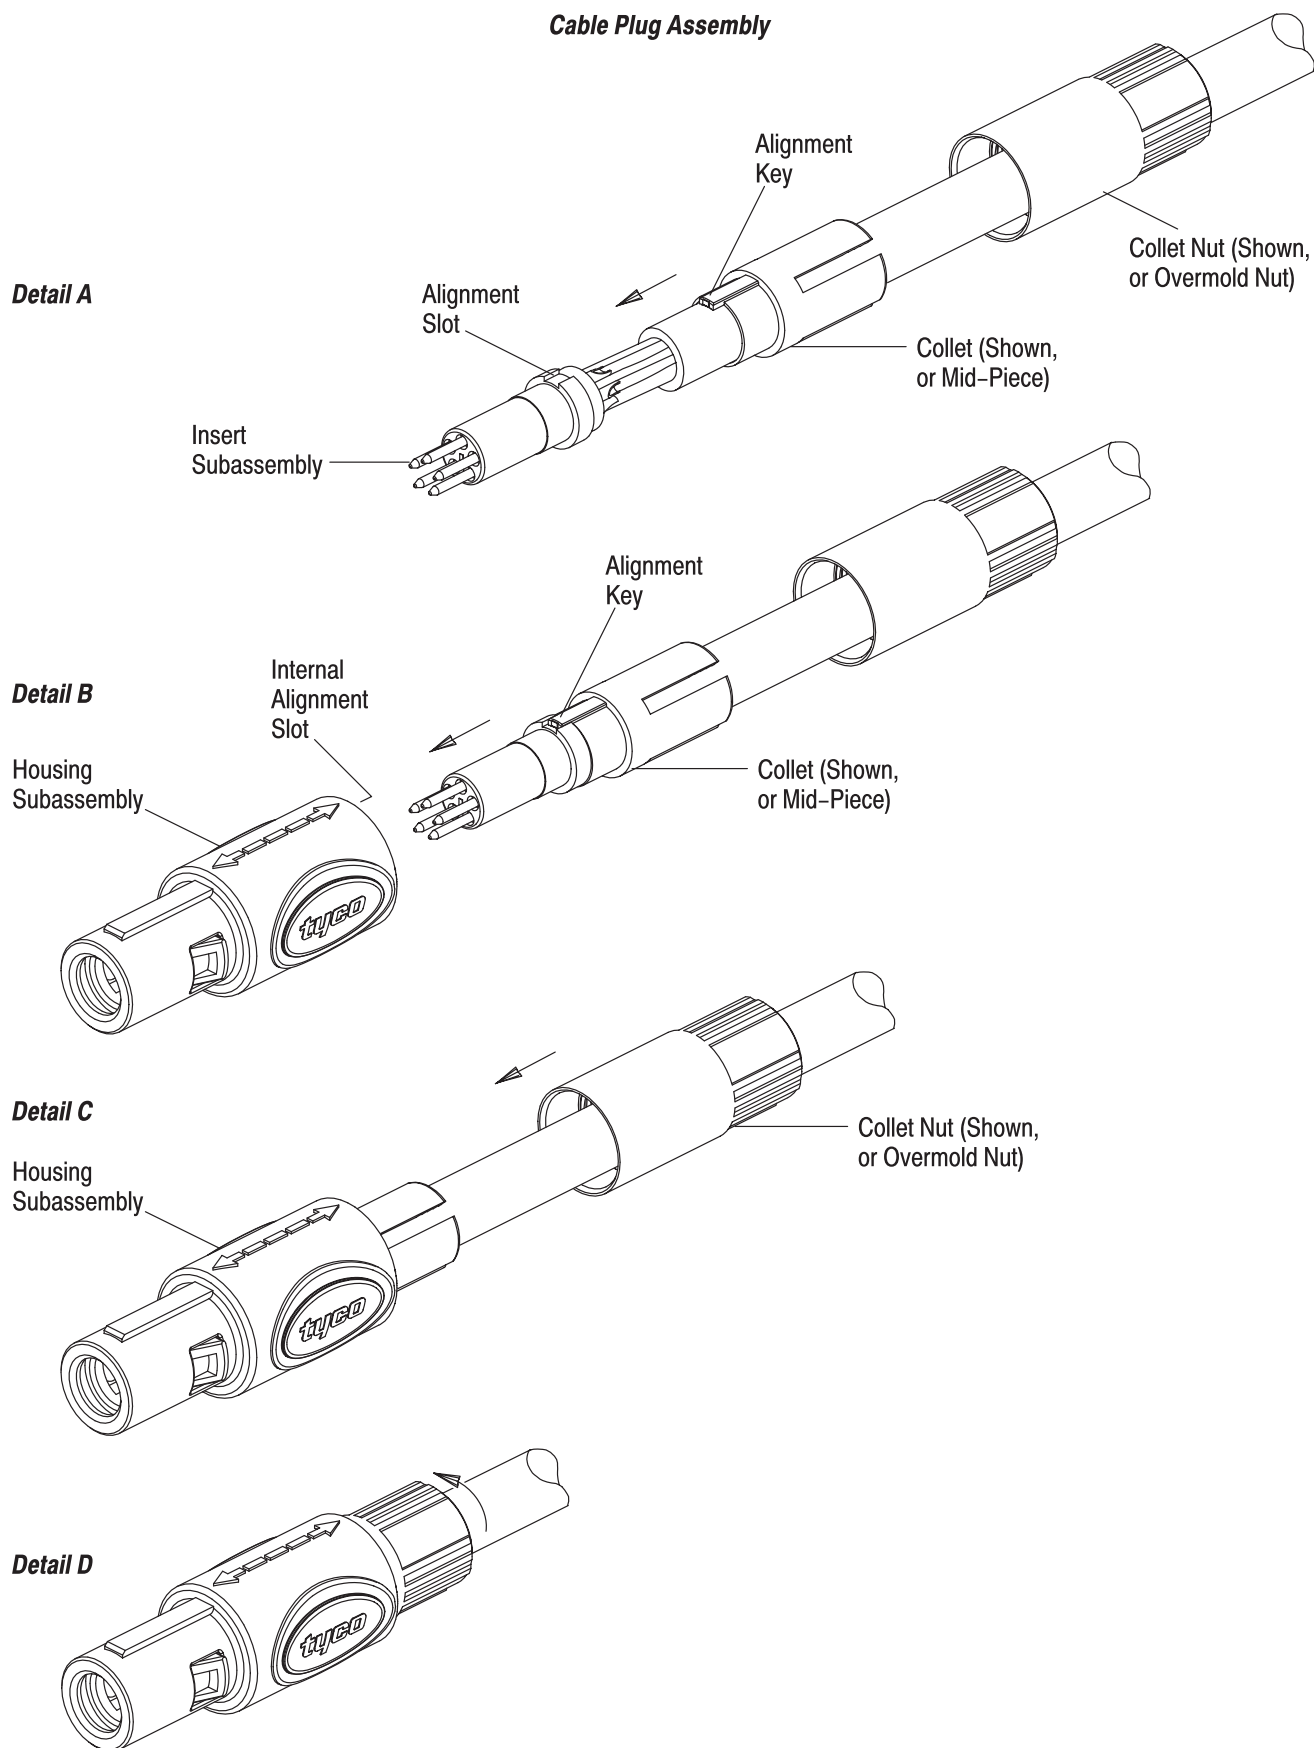

Figure 4
1. The alignment key of the collet or mid-piece must be aligned with the alignment slot of the insert subassembly, then the collet or mid-piece must be slid over the insert subassembly until it bottoms. See Figure 4, Detail A.
2. The alignment key of the collet or mid-piece must be aligned with the internal alignment slot of the housing subassembly, then the insert subassembly (with the collet or mid-piece) must be inserted into the housing subassembly until it bottoms. See Figure 4, Detail B.
3. The collet nut or overmold nut must be slid onto the cable and into the housing subassembly. See Figure 4, Detail C. The collet nut or overmold nut must be tightened until secure. See Figure 4, Detail D.